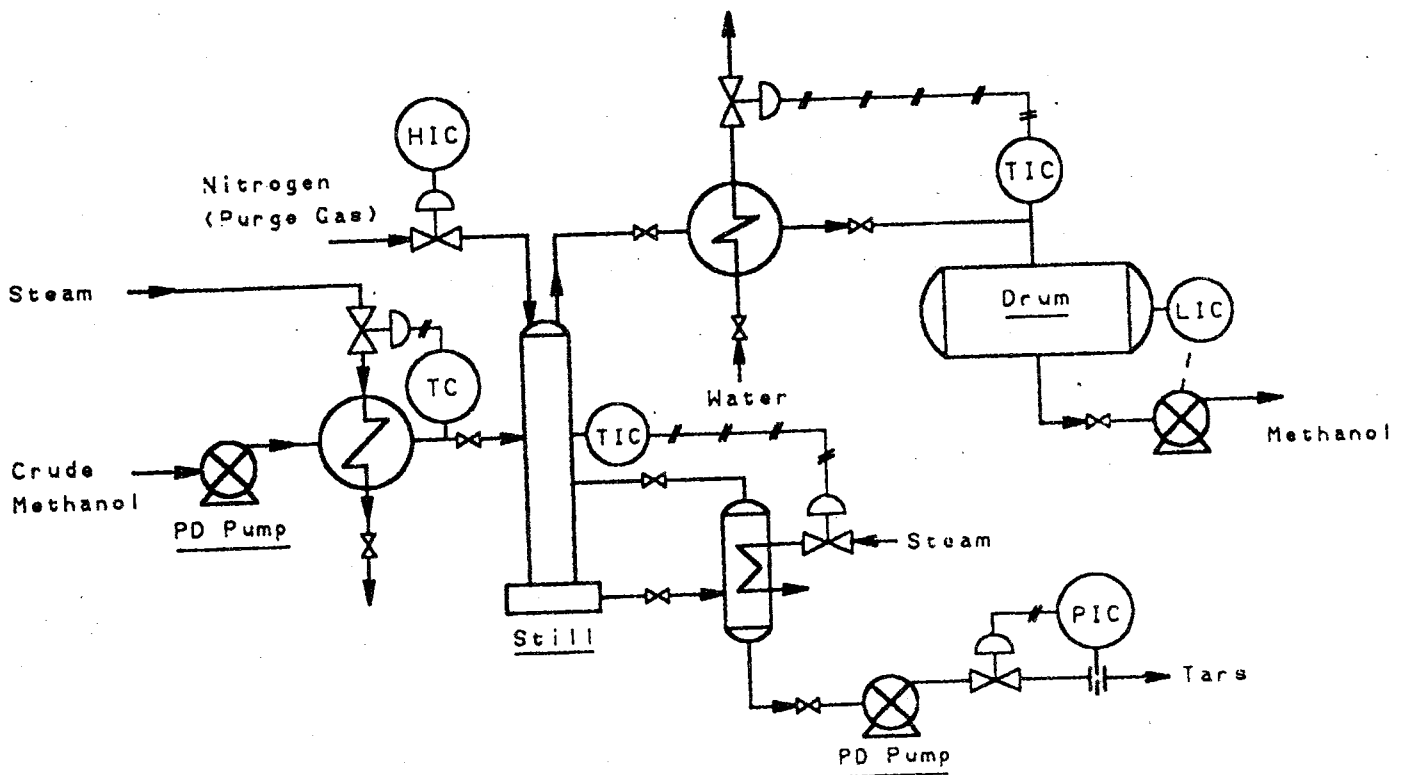

Figure Q3
*Figure Q3 shows a scheme for the distillation of crude methanol. Answer to the following:*